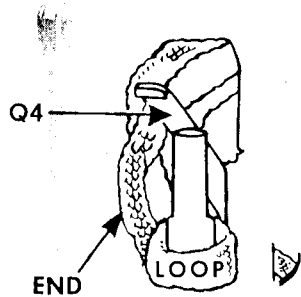

Fig. 64. Location of Loop and End of Wick in Head of Machine
11. Replace END of wick behind tension releasing lever **Q4** and into oil pool behind lower needle bar bushing, as shown in **Fig. 64**.
12. Replace LOOP behind and under tension releasing lever **Q4** and then out over lower presser bar bushing, as shown in **Fig. 64**.